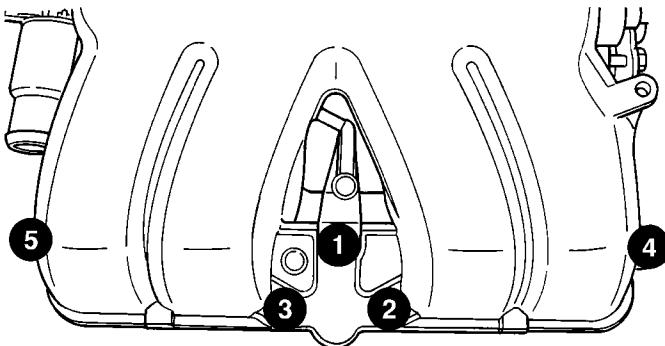

Fig. 110 Upper Intake Manifold Tightening Sequence - 2.4L
(12) Remove engine oil dipstick from tube.
(13) Remove upper intake manifold bolts (Fig. 110). Remove upper intake manifold.
(1) Clean manifold sealing surfaces.
(2) Apply a 1.5 mm (0.060 in.) bead Mopar® Gasket Maker to the perimeter of the lower intake manifold runner openings.
(3) Install upper intake manifold and tighten fasteners to 28 N·m (250 in. lbs.) in sequence shown in (Fig. 110). Repeat this procedures until all fasteners are at specified torque.